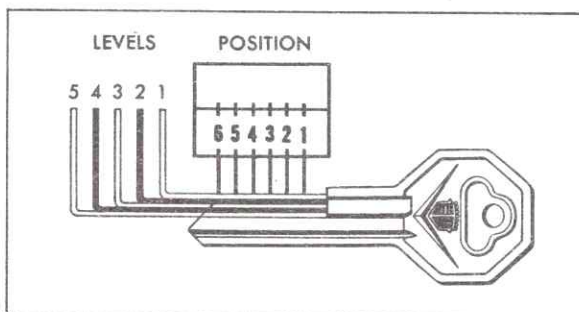

Fig. 0-3 Key Code Diagram
Key code numbers are stamped on the "knock-out" plug in the key head. After the code has been recorded by the owner to facilitate replacements or duplications of a key, the plugs should be knocked out of the key heads. If key code numbers are not available from records or from the "knock-out" plug, the code can be determined by laying the key on the diagram in Fig. 0-3, or from the door and rear compartment lock assemblies themselves.
lock cylinder case; for "B" type lock cylinder assemblies, the number is stamped on the side of the rear compartment lock cylinder. From these numbers the lock combination can be determined by use of a code list for cutting new keys or coding a replacement service lock cylinder assembly. Ignition, glove compartment and console lock cylinders coded by the car division do not have key code numbers stamped on them; therefore, codes may be determined either from a door or rear compartment lock cylinder of the same car which will have the same lock tumblers, or from the key code diagram, Fig. 0-3.
After the special code has been determined, either from the code list or the Key Code Diagram, Fig. 0-3, cut a blank key to the proper level for each of the six tumbler positions, and check the key in the lock cylinder. The new key should agree with the combination opposite the code number in the code list.
When it is necessary to assemble a new lock cylinder to agree with a key code number, install the proper tumblers into their respective slots, as inciated by Key Code Diagram, Fig. 0-3 or Briggs and Stratton Code List.
1. Lay the key on the Key Code Diagram, Fig. 0-3, with the key outlined by the diagram as accurately as possible.